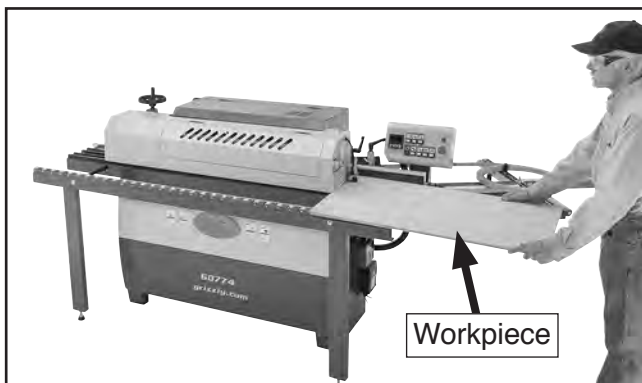

Figure 60. Placing workpiece on table in preparation for edgeworking.
10. Place straight edge of workpiece on infeed end of table and press it firmly against infeed fence, as shown in **Figure 60**.